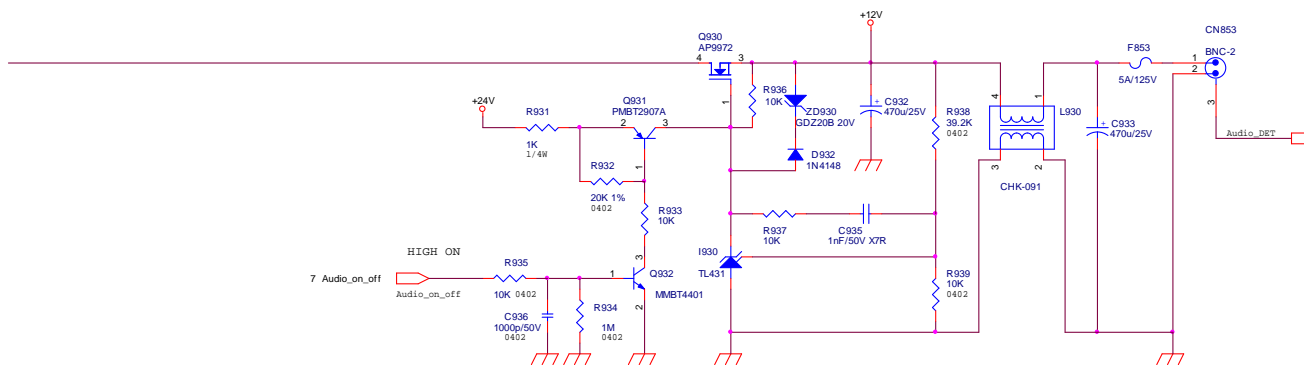

Fig.8
2.2.5) Audio Power output:(fig.8)